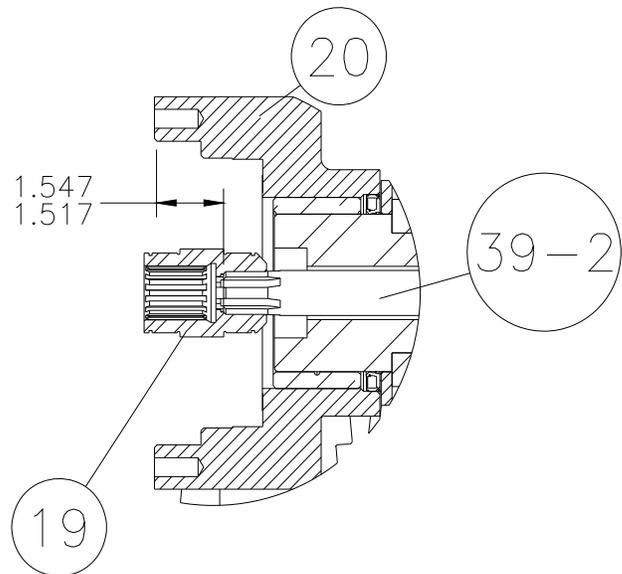

FIG 3
2. Measure the distance from the face of the brake housing to the end of the shaft as shown (Figure 3).
3. If needed, add shims (111, 112) inside the input driver (54) next to the end of the input shaft (39-2) to achieve dimension noted.